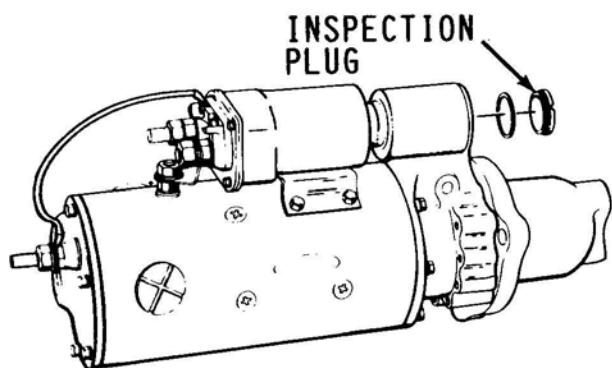

Figure 2-7. Access to Shift Lever Adjust Nut
- 8) Shift Lever. Remove the inspection plug for access to shift lever adjusting nut (fig. 2-7) if looseness is indicated.